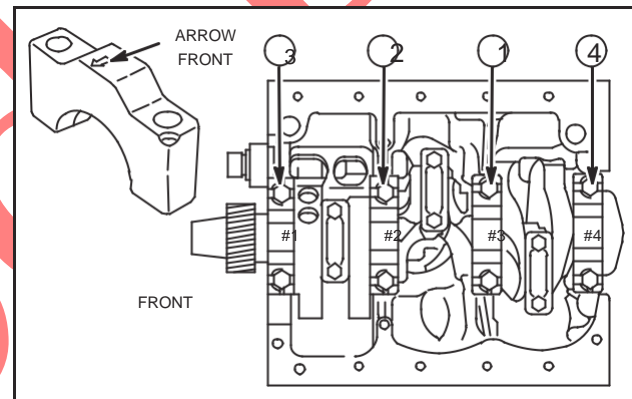

Fig. 4 – Installing Main Bearing Caps
4. Install main bearing caps, Fig. 4. Lubricate threads of screws with engine oil.